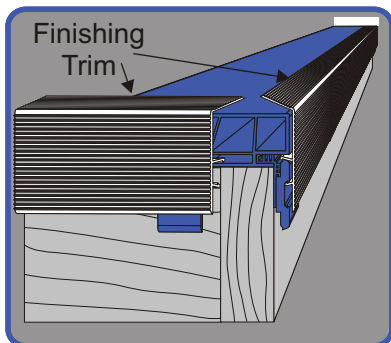

Figure 8
**Step 7.** Snap finishing trim to anchor biscuits to conceal the exposed edges and sides of deck boards (see Figure 8). Finishing trim may be miter cut, or notched and bent, to accommodate deck corners.